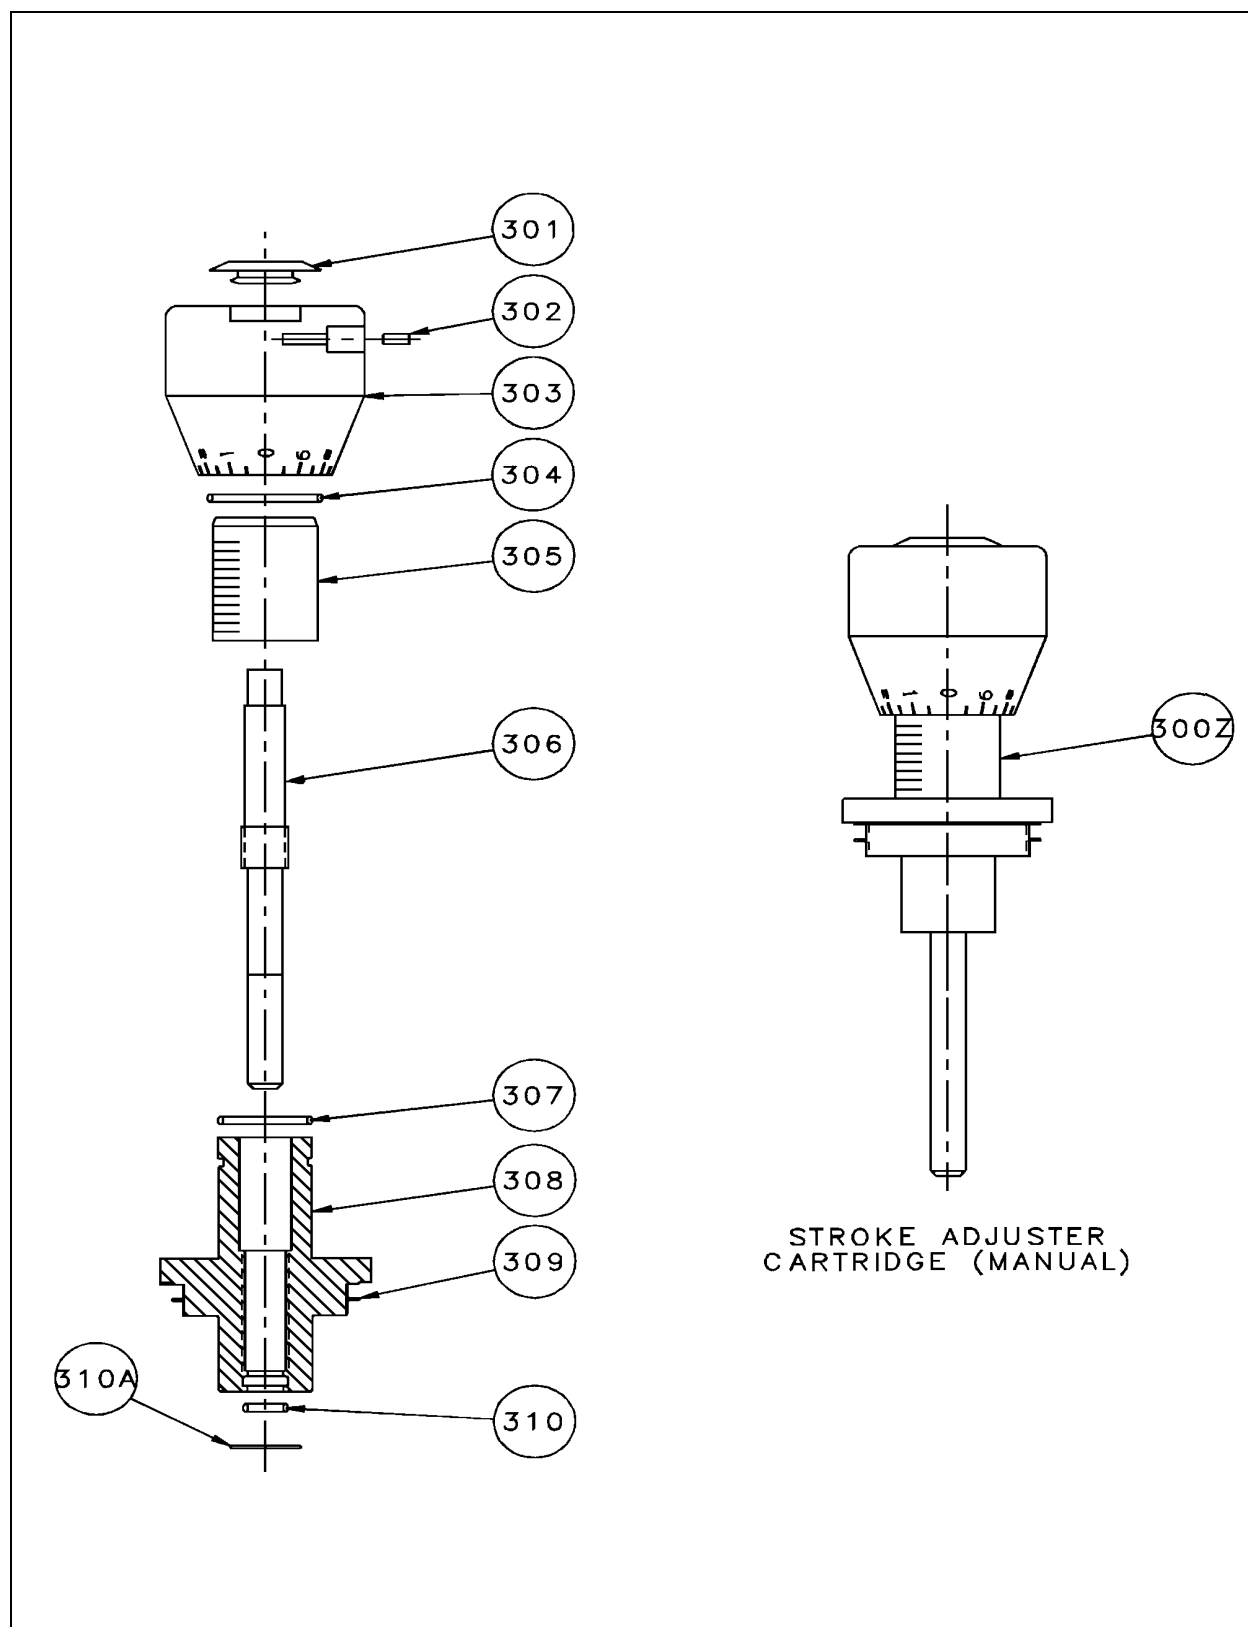

Figure 38. Manual Stroke Adjuster Assembly.
6.19 MANUAL STROKE ADJUSTER ASSEMBLY (FIGURE 38)